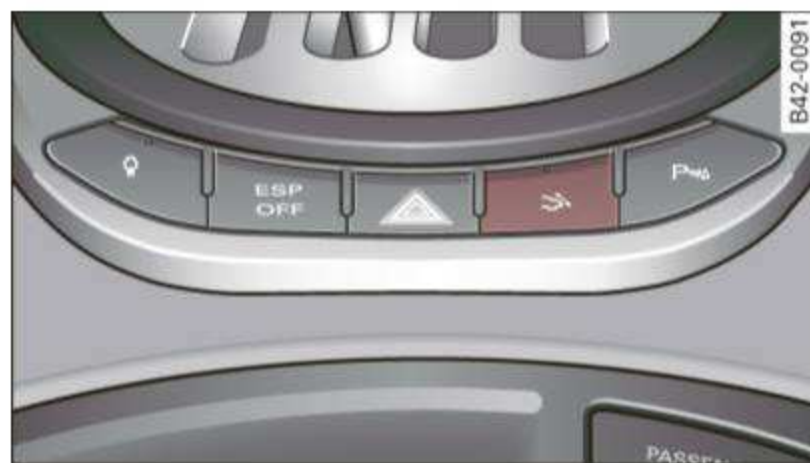

Fig. 112 Switch for rear spoiler
- Manual deployment: Tapping briefly on the switch ⇒ fig. 112 deploys the rear spoiler.